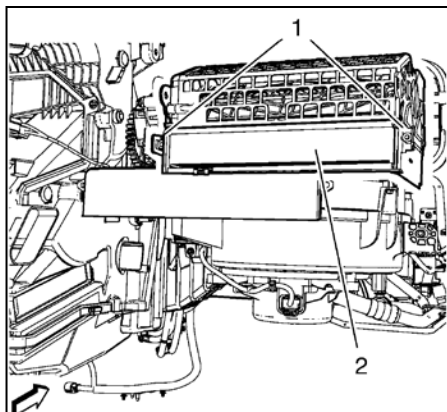

Fig. 6
14. Remove two clips (1) and remove passenger compartment air filter (2) (see Fig. 6).